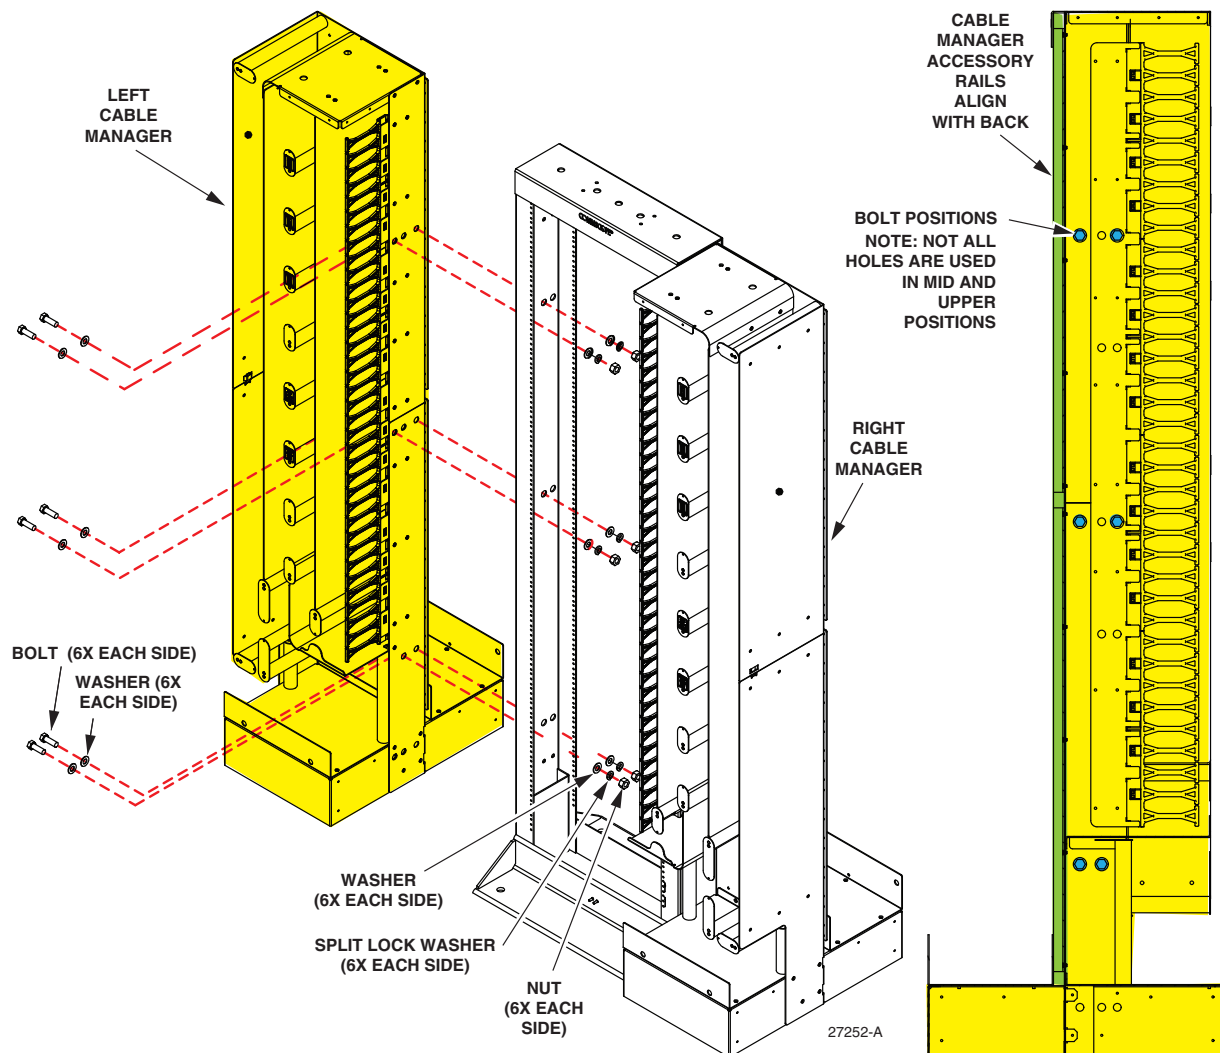

Figure 15. Installing the Cable Managers
The Flex Frame can be mounted on a raised floor using the CommScope Raised Floor Mounting Kit, 5/8" (FDF-ACC146). Figure 15 shows an exploded view of the kit components. To order the kit, refer to the following URL:
1. Fasten the left and right cable managers to the frame, aligning the components as shown in Figure 15.